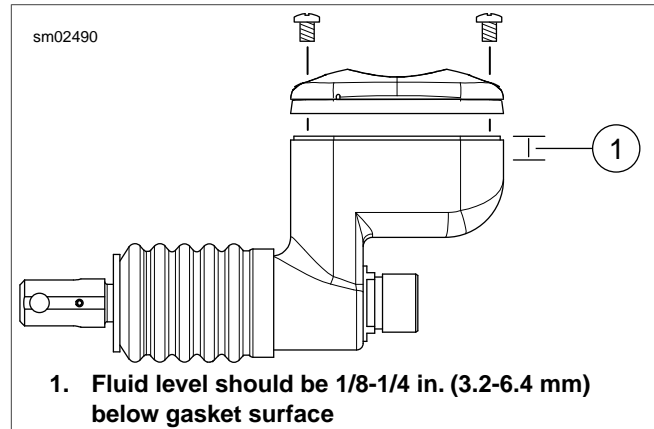

Figure 1-6. Rear Brake Master Cylinder Reservoir
1. See Figure 1-6. Check level in rear brake master cylinder reservoir. Level should be $1/4 \pm 1/8$ in. (6.35 ± 3.18 mm) below the gasket surface.